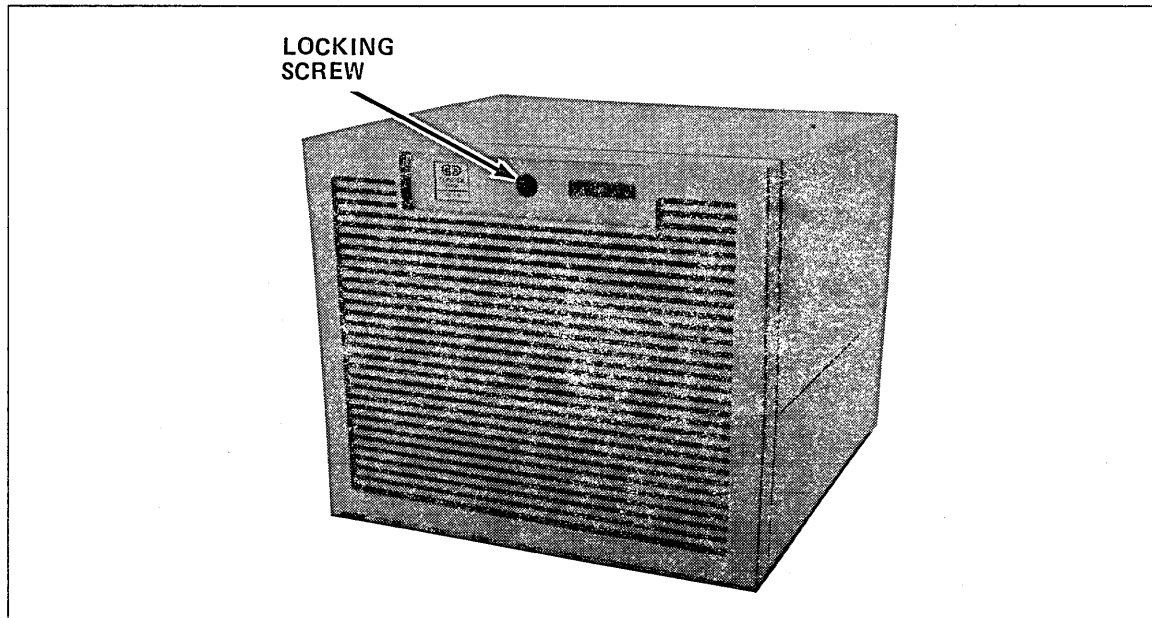

Figure 1-4. DI Cabinet Door Locking Screw
3. Open the cabinet door. Use a 3/16-inch Allen wrench to turn the locking screw at the top-center of the door counterclockwise. Refer to figure 1-4.